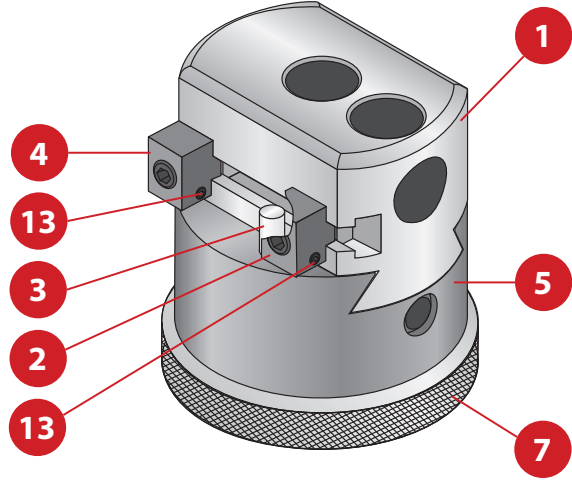

Figure B5
1. Align the "Rev. Lock" mark on the facing ring (7) with the "Rev. Lock" mark on the body (5) (see Figure B5).